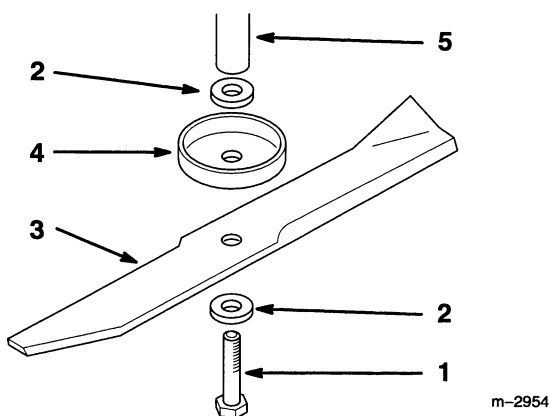

Figure 28
1. Install the bolt, washer, blade, cup and second washer to spindle (Fig. 28).